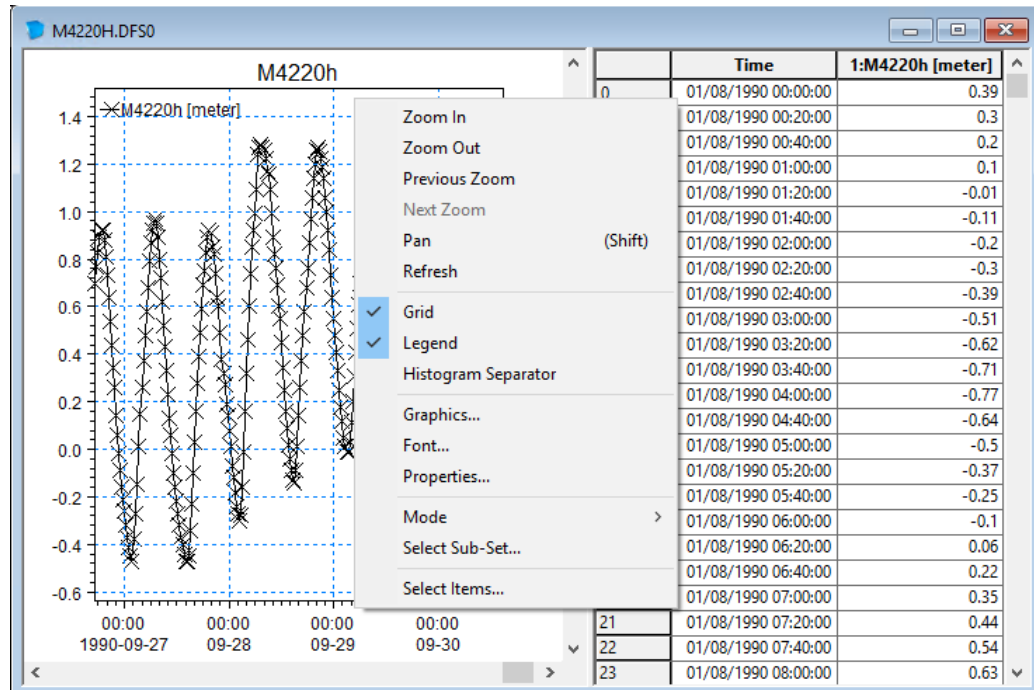

Figure 5.9 Time series editor; Time Series Data dialog
The Time Series Data dialog consists of two views, a tabular view and a graphical view (see Figure 5.9).
- To activate the pop-up menu as shown on Figure 5.9 place the cursor in the graphical view and press the right mouse button